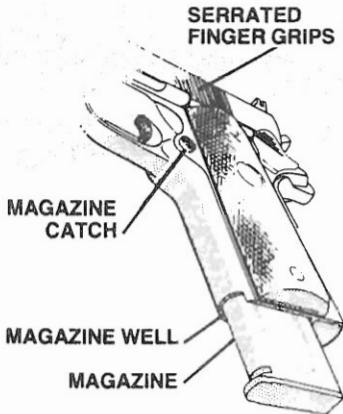

Figure 4
2. Remove empty magazine from pistol (after placing your hand under magazine to prevent it from falling) by pressing magazine catch (located on left of pistol behind trigger guard) to release and eject magazine from magazine well. (See Figure 4.)